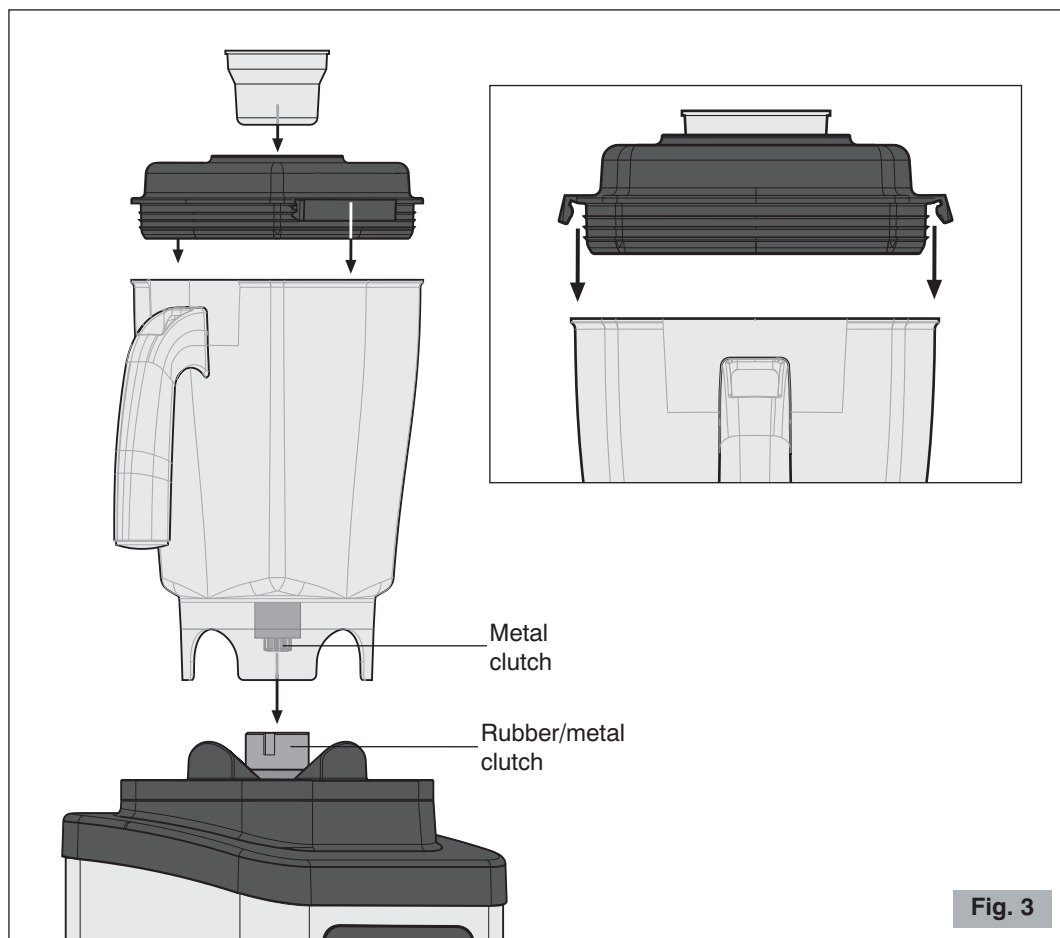

Fig. 3
- 2 Stand the container on the base fitting it into its support as shown in figure 3.
- 3 Fit the lid on the container by pressing on the closing hooks (see Fig. 3).